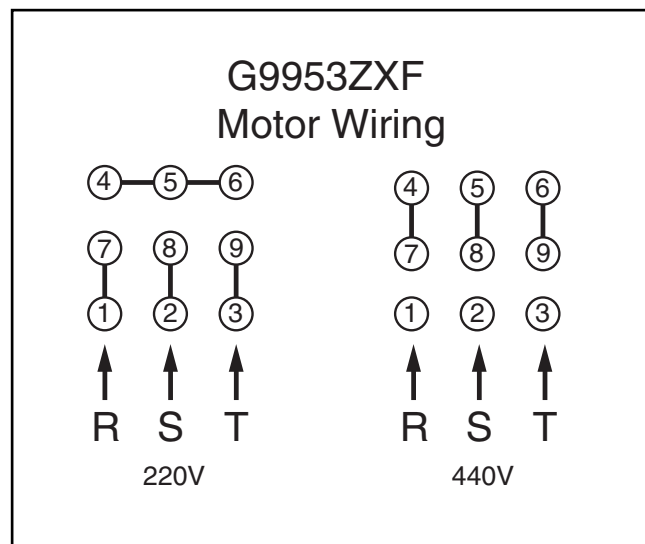

Figure 6. 440V motor wiring.
5. Wire the motor as shown on the diagram on the inside of the motor wire cover. Note—The circled references on the diagrams represent labels on the wires. Also, Figure 6 below has been provided for your reference and are current at the time that this manual is being written. However, always use the diagram on the wire cover that comes with your motor!